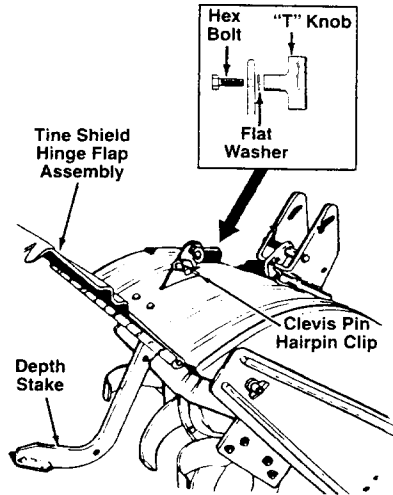

FIGURE 1
2. Raise the tine shield hinge flap assembly. Insert the depth bar assembly between the two shoulder bolts and up through the tine shield assembly as shown in figure 1.
4. Insert hex bolt into the upper hole of the depth bar assembly. Place flat washer onto the hex bolt and thread small "T" knob (A) onto the hex bolt. See figure 1. Tighten securely.